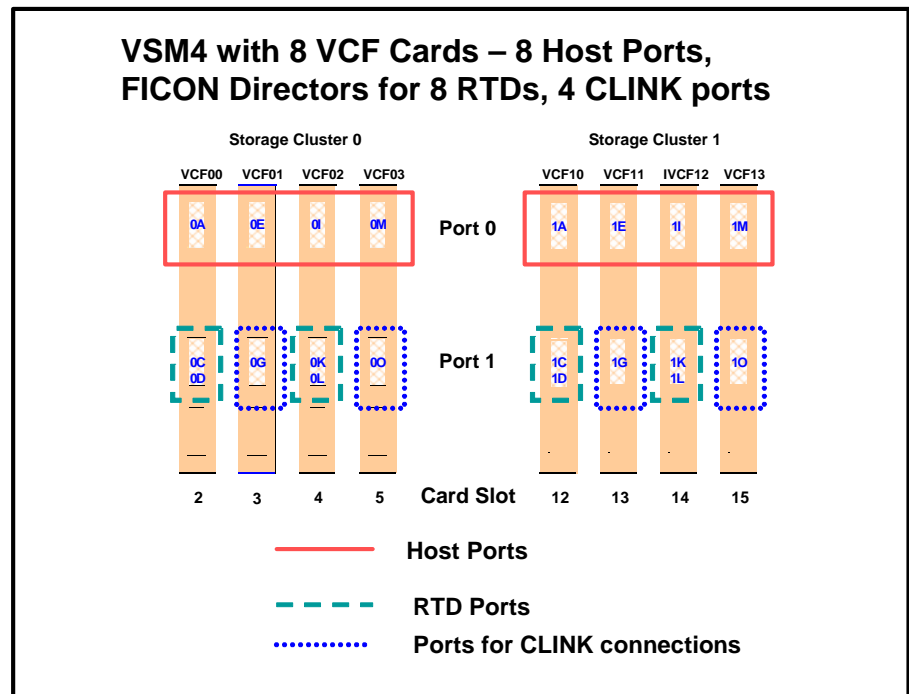
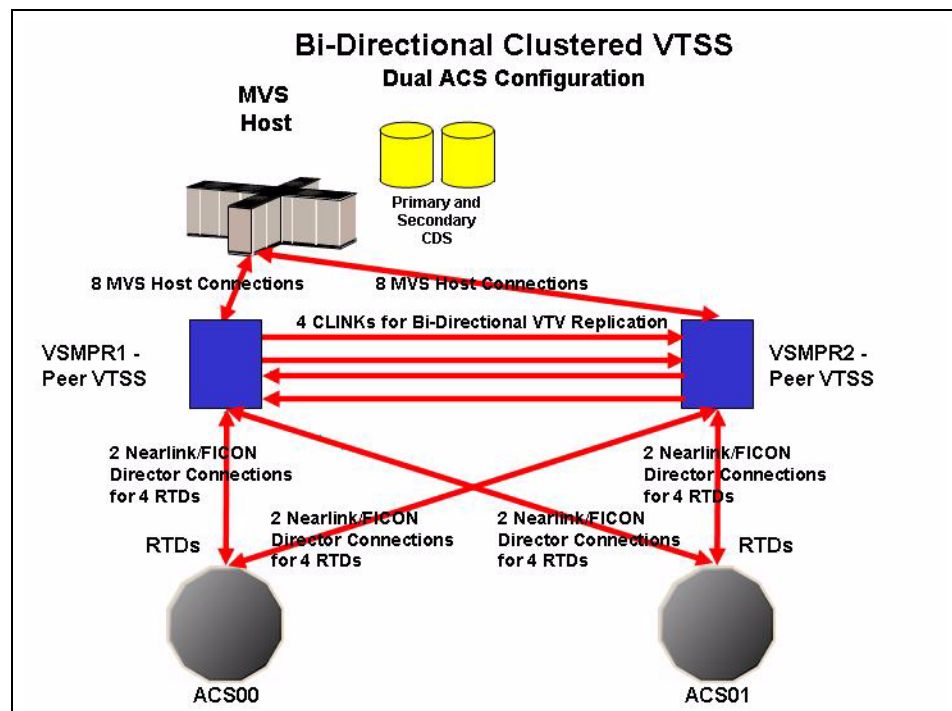

Figure 14. VSM4 with 8 VCF Cards, 8 Host Ports, FICON Directors for 8 RTDs, 4 CLINK Ports
Figure 15. Dual ACS Bi-Directional Clustered VTSS Configuration
Figure 14 shows CONFIG channel interface identifiers for a VSM4 with 8 VCF cards. In this configuration, we've allocated:
- 4 ports for CLINK connections to form a Bi-Directional VTSS Cluster, and 8 ports to host connections. To form the clustered VTSS, we'll have two VSM4s (VSM4PR1 and VSM4PR2) configured identically as shown in Figure 14. As shown in Figure 6 on page 63, Bi-Directional Clustering requires pairs of Uni-Directional CLINKs with the FIPSSs configured so that the data flows in **opposite directions** on the CLINKs. To make that happen, let's make 0G and 1G the sending (Nearlink Mode) ports on both VTSSs and 0O and 1O the receiving (Host Mode) ports on both VTSSs.
Figure 15 shows an example of a Bi-Directional Clustered VTSS Dual ACS system using the port configuration shown in Figure 14 on page 71.
Figure 15 shows example CONFIG JCL to define a Bi-Directional Cluster of two VSM4s (VSMR1 and VSMR2) with identical VCF card configurations shown in Figure 14 on page 71.
To configure and manage the Bi-Directional Clustered system shown in Figure 15, do the following:
Figure 16 shows example CONFIG JCL to define a Bi-Directional Cluster of two VSM4s (VSMPR1 and VSMPR2) as shown in Figure 15 on page 72. **Note that:**